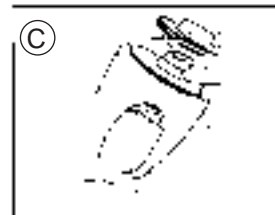

Fig. 3
*Laguna Pumps 4, 5, 6 and 7:* No tools are required to remove the impeller. Simply grasp impeller (C) firmly and pull it out of the impeller well. (Fig. 3)